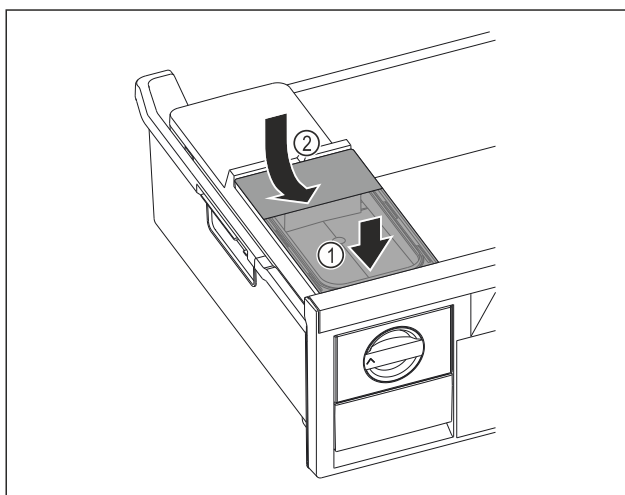

Fig. 80
- Position the water tank at the front. Fig. 80 (1)
- Lower the water tank at the rear. Fig. 80 (2)